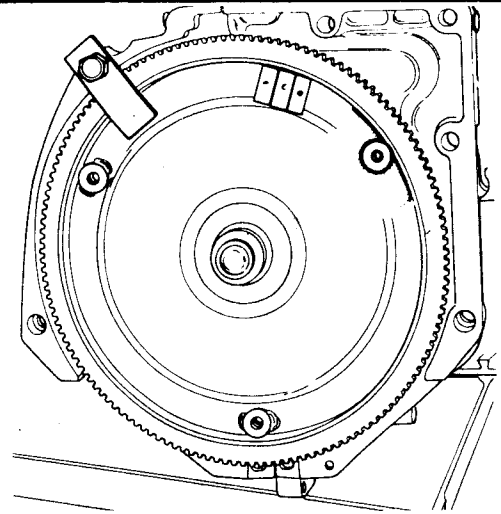

Fig.1.18 Automatic transmission converter temporary retaining plate
- 3 Refer to Fig.1.18 and fit on retaining plate to avoid displacement of the convertor from the gearbox.